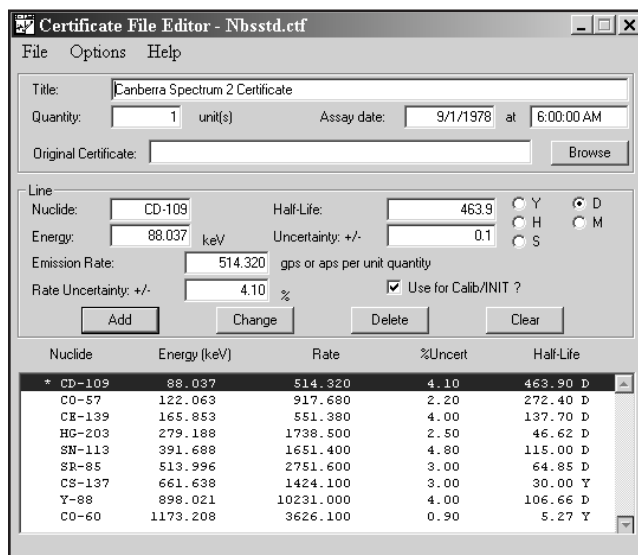

Figure 167 Editing a Certificate File
Select the **File | Open** command to load a Certificate File, then select the NBSSTD.CTF file. The result will be the screen in Figure 167.
6. **Uncertainty.** This is the uncertainty of that half-life, expressed in the same units as the half-life. For example, in Figure 167 the data shown would be read as “The half-life is 463.9 Days plus or minus 0.1 Days”.